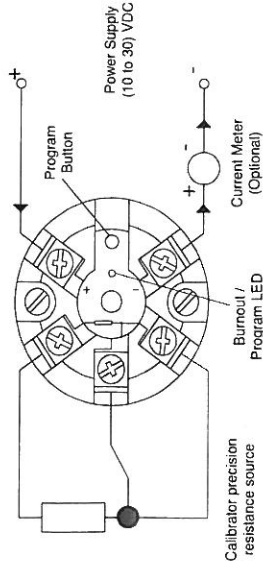

Figure 3 Configuration circuit
- Refer to figure 3, connect resistance box to the input terminals using three wire connection. Connect output to a DC supply, observe polarity. Turn power on and allow 1 minute warm up period.
- Refer to figure 3, Connect output to a DC supply, observe polarity. For this menu the input can be connected or open circuit. Turn power on.
- Refer to figure 3, connect sensor or resistance box to the input terminals using three wire connection. Connect output to a DC supply, observe polarity, connect current meter in series with loop. Turn power on and allow 1 minute warm up period